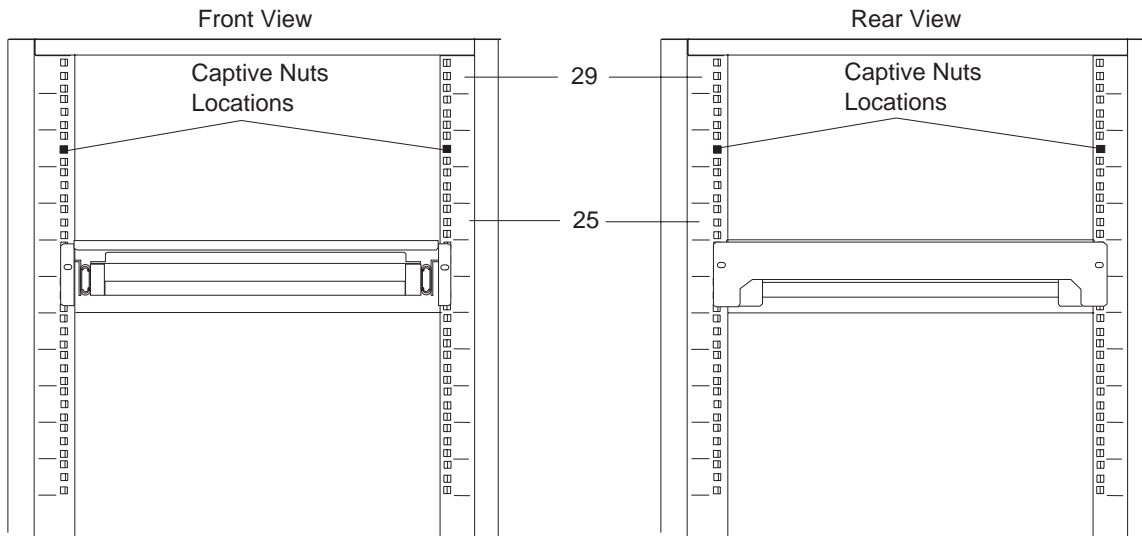
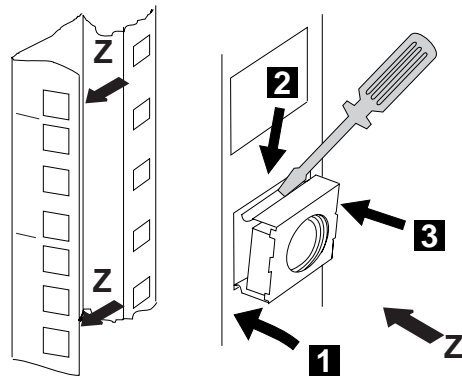

Figure 1-23. Captive Nut Positioning for the NAS with Earthquake Feature in 29U Rack
Figure 1-24. Captive Nut Installation
1. ____ Install the captive nuts on the rack for installing the NAS. See Figure 1-23 for the front and rear rack location, and Figure 1-24 for captive nut installation.